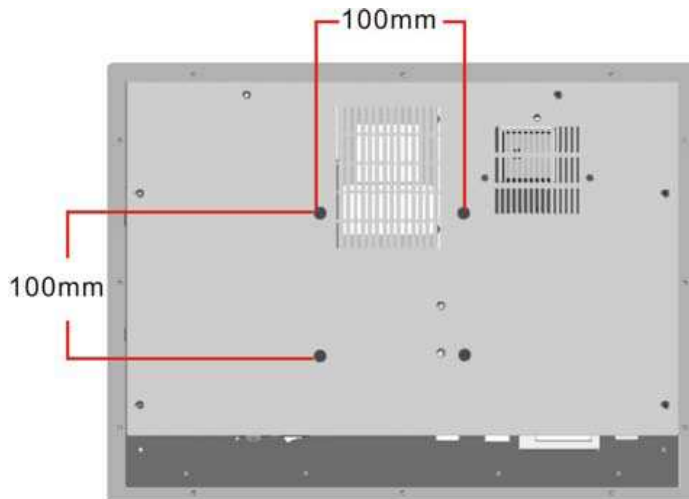

Figure 3-17: Arm Mount Retention Screw Holes
Step 3: Align the retention screw holes on the mounting arm interface with those in the IVC-17PC-P flat panel PC. The IVC-17PC-P flat panel PC arm mount retention screw holes are shown in **Figure 3-17**.